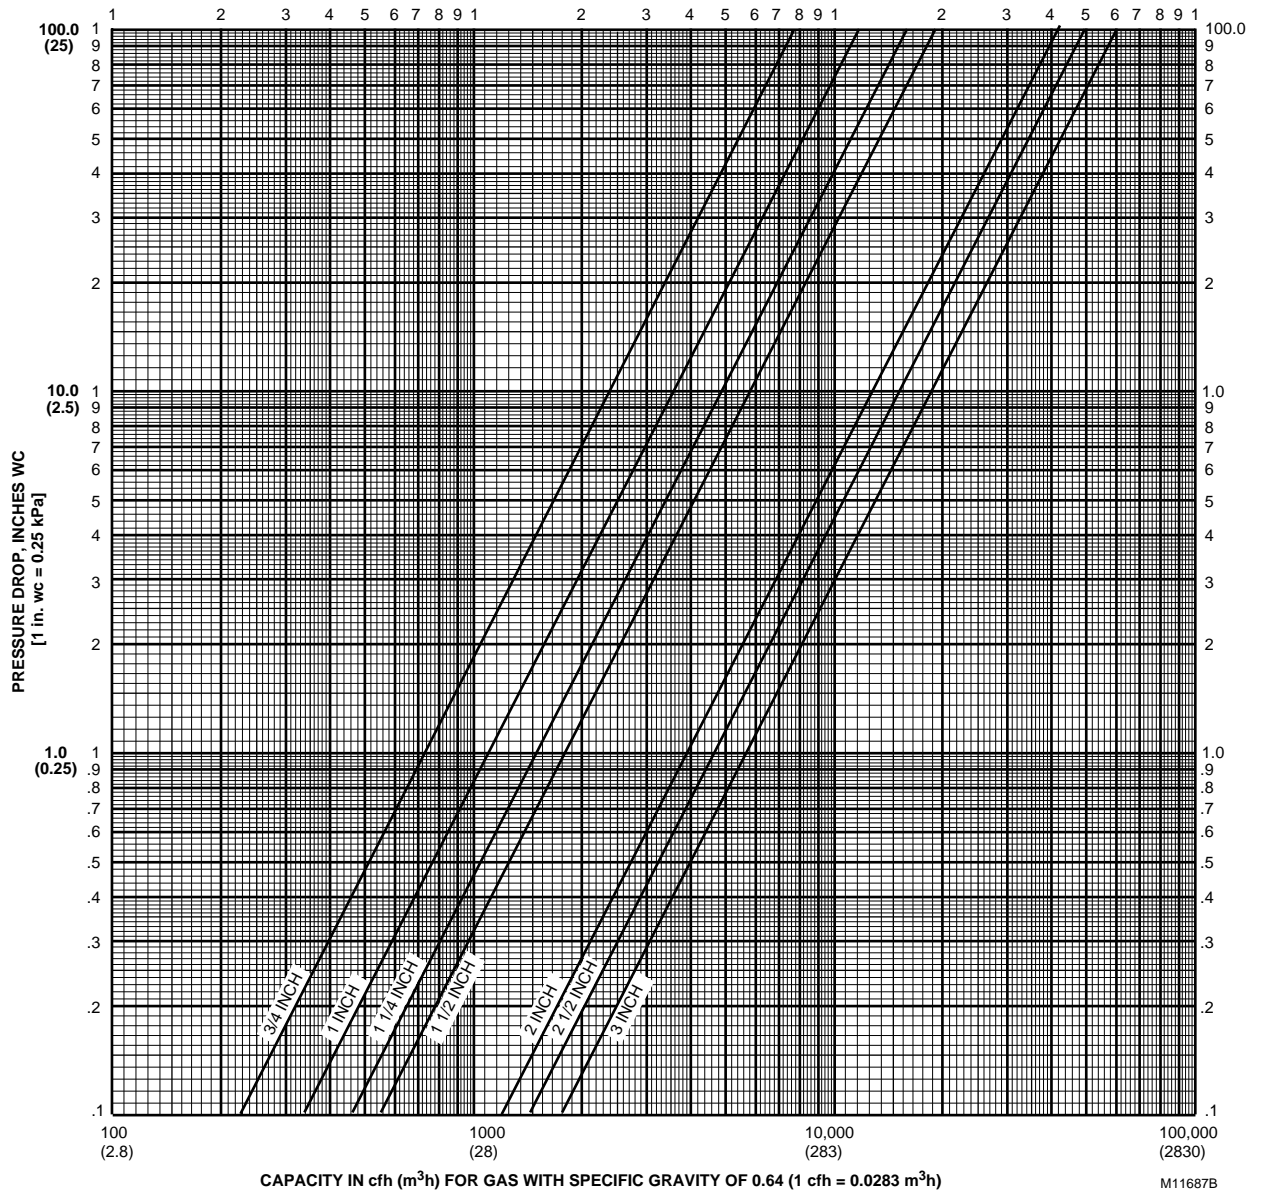

Fig. 4. Flow curves for V5097 Valves.
5. Use the cfh capacity (for 0.64 or the corrected cfh from step 4) for determining the gas valve size in Fig. 4.
6. Determine the maximum pressure drop across the valve and draw a horizontal line at this pressure in Fig. 4.
7. Draw a vertical line in Fig. 4 at the capacity (cfh) previously determined. Use the corrected capacity for a gas with a specific gravity other than 0.64.
8. Use the valve size at the intersection of the horizontal and vertical lines. If the intersection is between valve sizes, use the next larger valve size in Fig.4.
Applying this number to Fig. 4, assuming a 1 in. wc pressure drop, use a 2 in. V5097 Valve for that flow (step 8 of Gas Valve Sizing).
Valve Leak Test (Fig. 4)
1. De-energize the control system to assure no power goes to the valve actuator (C, Fig. 4).
2. Close the upstream manual gas cock (A).
3. Make sure the manual test petcock (F) is closed in the leak test tap assembly (D).
4. Remove the leak test tap plug and connect the test apparatus to the leak tap (D).
5. Close the downstream manual gas cock (E).
6. Open the upstream manual gas cock (A).
9. Slowly open the test petcock (F).